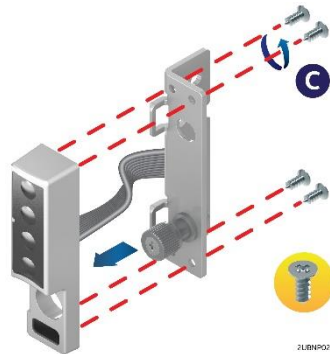

Figure 57. Removing the front control panel assembly from the rack handle
1. Remove the four screws on the back of the rack handle (C) as pictured in Figure 57. Be careful of the front panel cable on the back.